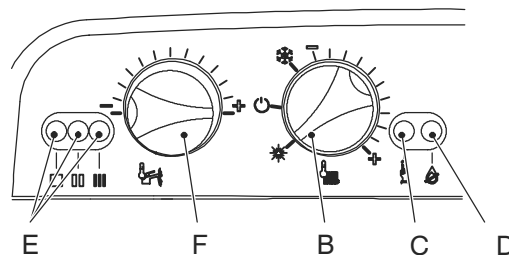

Fig. 11.7
- 22 Set the knob F to the maximum position as illustrated in Fig. 11.7